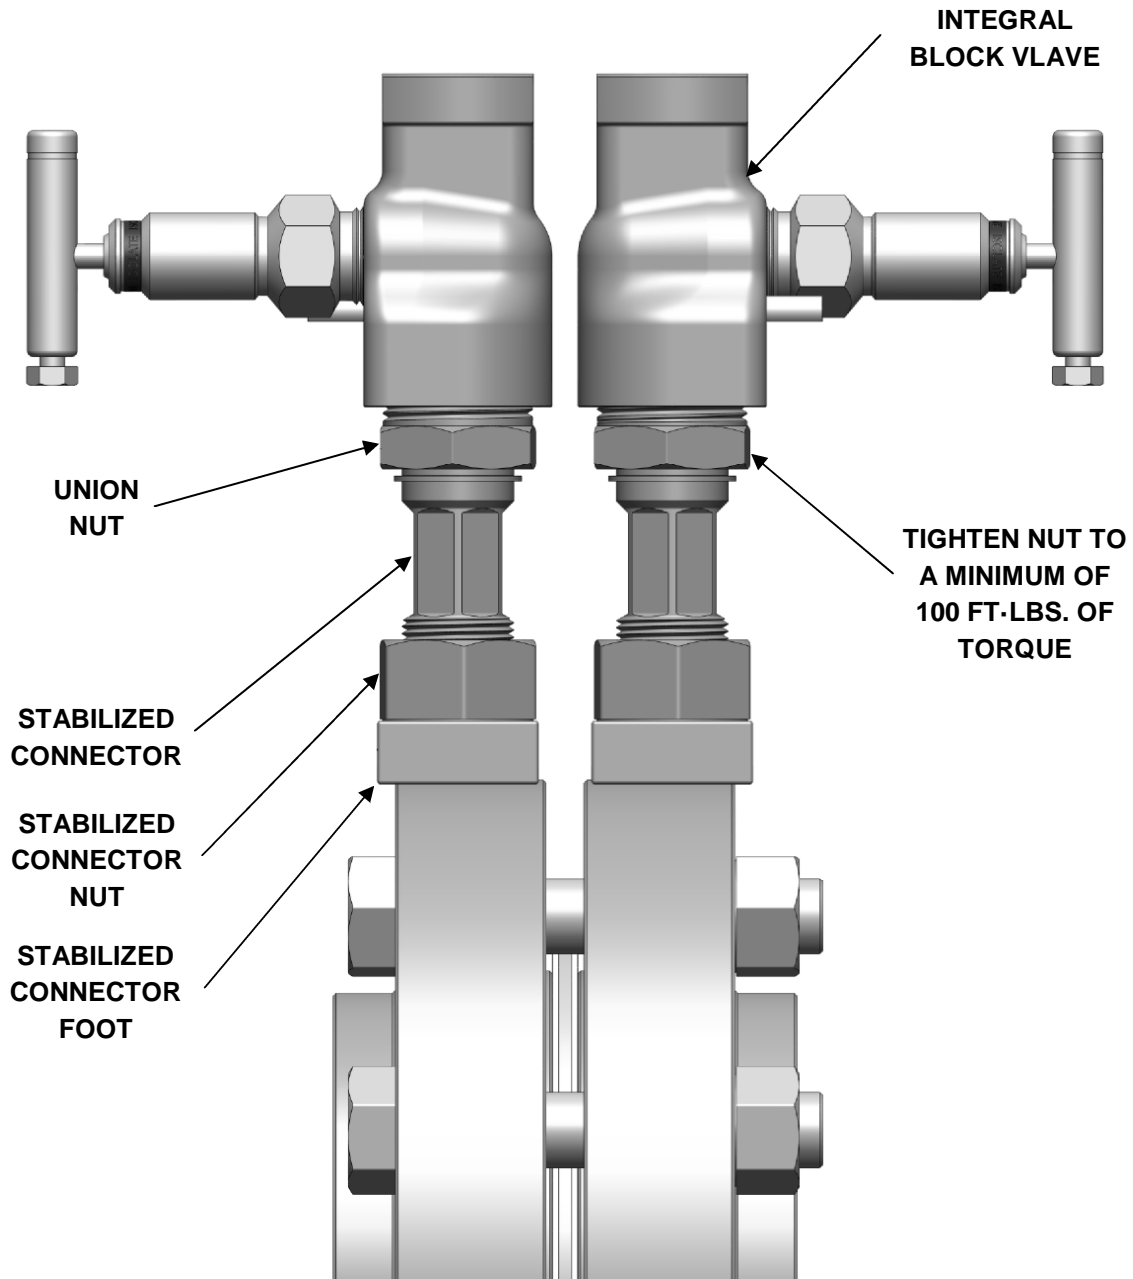

Figure 3
- 2.1.7 Install the valve bodies onto the stabilized connectors and tighten the union nut per Figure 3.